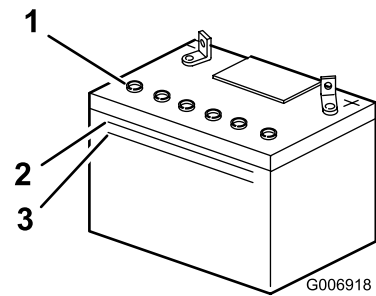

Figure 35
2. Look at the side of the battery. The electrolyte must be up to the upper line (Figure 35).
Note: Do not allow the electrolyte to fall below the lower line (Figure 35).
2. Remove the filler caps (Figure 35).
3. Slowly pour distilled water into each battery cell until the level is up to the lower part of the tube (Figure 35).